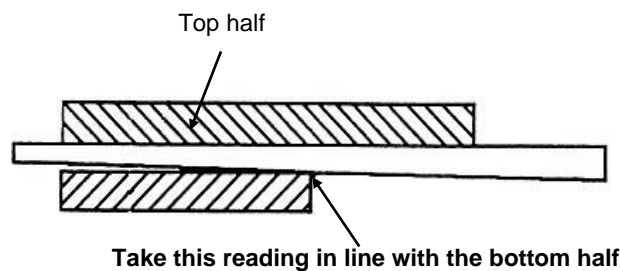

FIG 28.
- When the top part of the component, which forms the gap, overhangs the bottom part, the reading must be taken in line with the bottom face. (Fig 28)